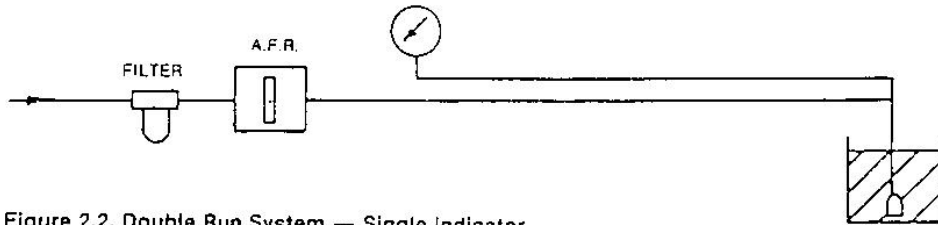

Figure 2.2. Double Run System — Single Indicator.
- b) The use of a "double run" system (see Figures 2.2 and 2.3).